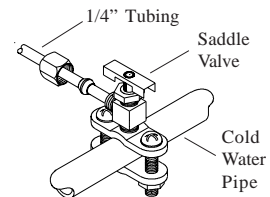
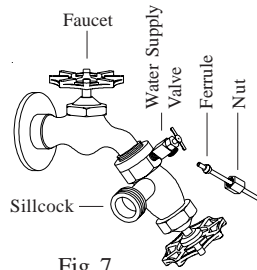

Fig. 6
Fig. 7
- **Connect water supply line.** Find the closest supply of water. Use a saddle valve (Fig. 6) to connect 1/4" tubing to the cold water supply or use a Sillcock and water valve connected to an outside faucet (Fig. 7). Place the nut and ferrule on the